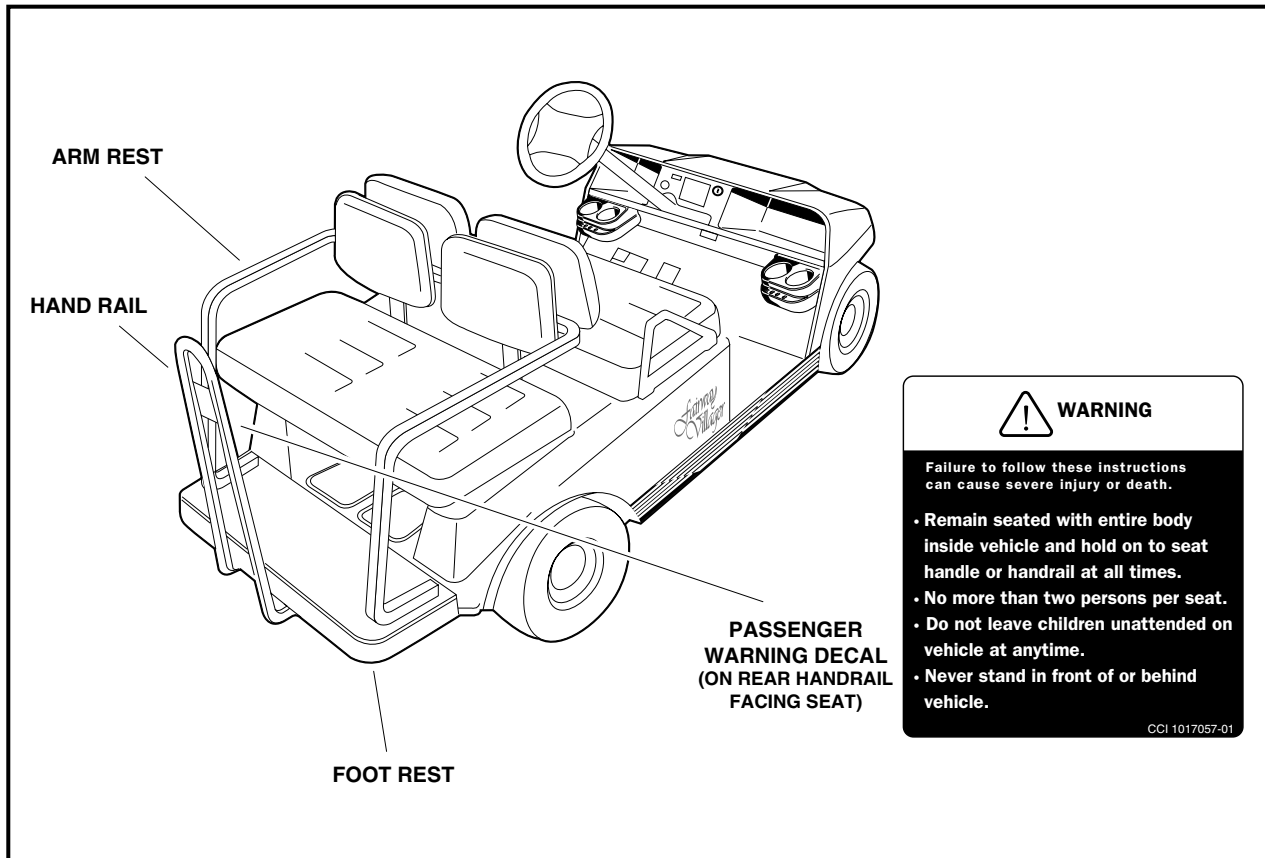

Figure 21 Fairway Villager
- Passengers should hold on to seat handles or hand rails at all times (Figure 21, Page 30). Driver should keep both hands on the steering wheel while vehicle is moving.